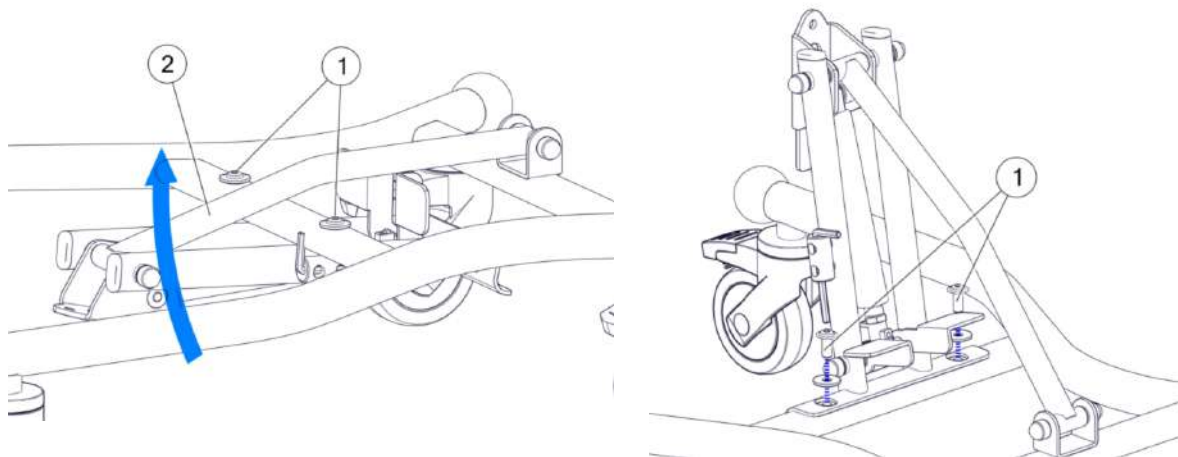

Fig. 4
Fig. 4 To disassemble the frame, first unscrew the screws (1), then set the frame support (2) in the correct position. After setting the frame support, the previously unscrewed screws (1) should be screwed to the frame through the support openings.